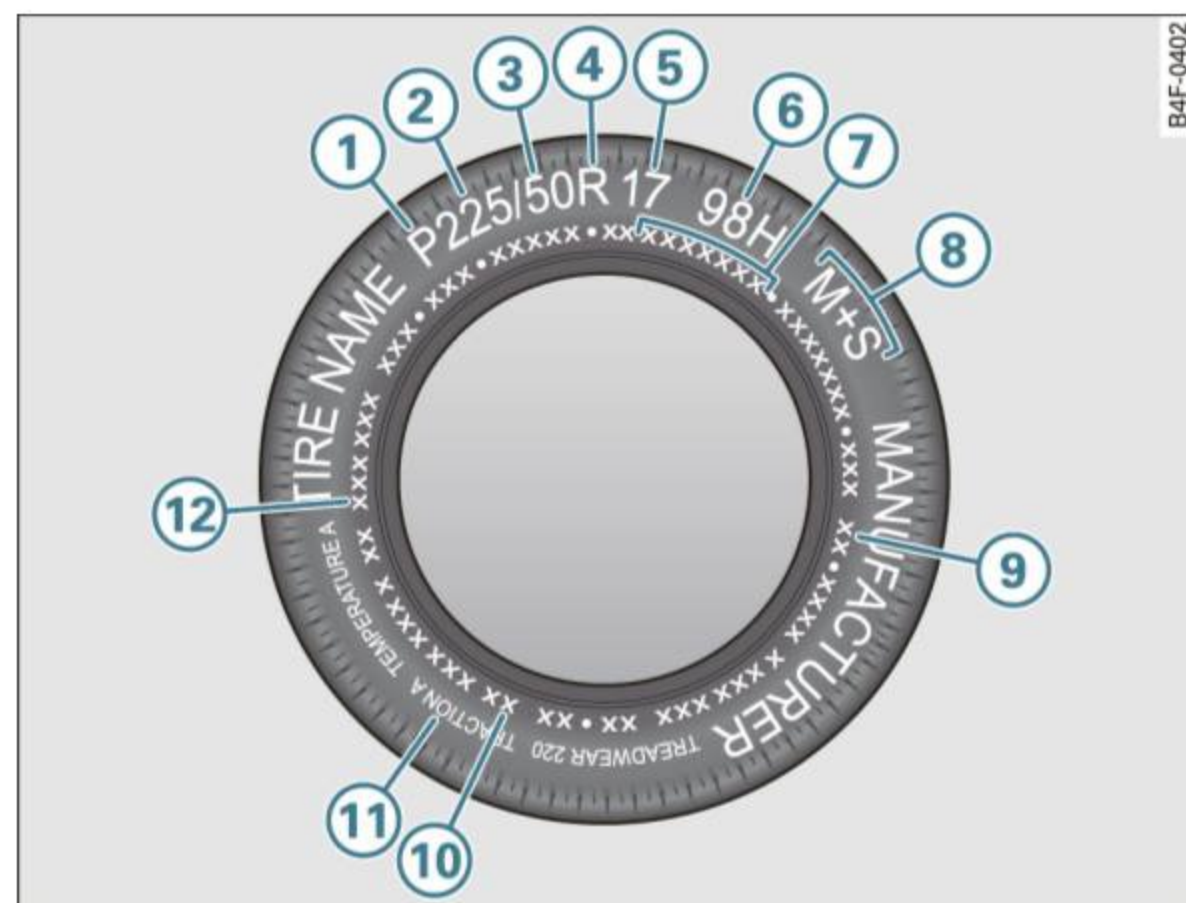

Fig. 214 Tire specification codes on the sidewall of a tire
- Check the tire sidewall (\Rightarrow *page 288*, fig. 214) to determine the designated load rating for a specific tire. ■
Federal law requires tire manufacturers to place standardized information on the sidewall of all tires ⇒ *page 288*, fig. 214. This information identifies and describes the fundamental characteristics, the quality grade of the tire and also provides a tire identification number for safety standard certification and in case of a recall.